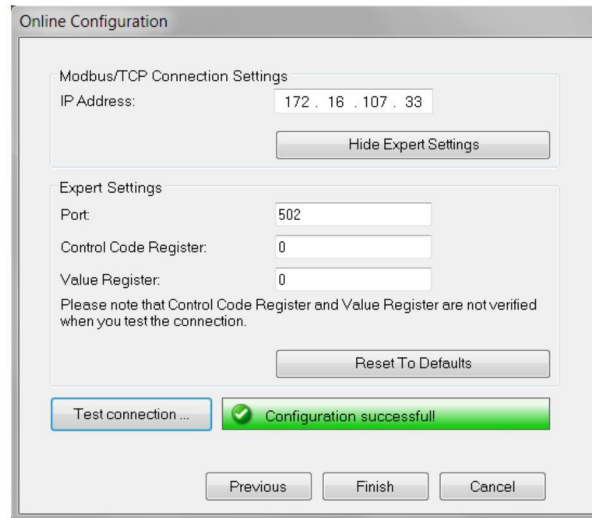

Figure 3-41 Making the connection settings
- Set the “Expert Settings” as shown in Figure 3-41.